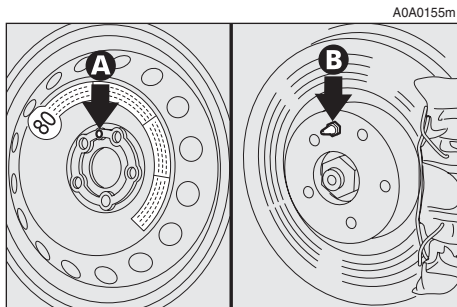

fig. 7
– Install the spare wheel matching the hole (**A**-fig. 7) with the corresponding pin (**B**).
– Fit the normal wheel matching the hole (**A**-fig. 7) with the corresponding pin (**B**).